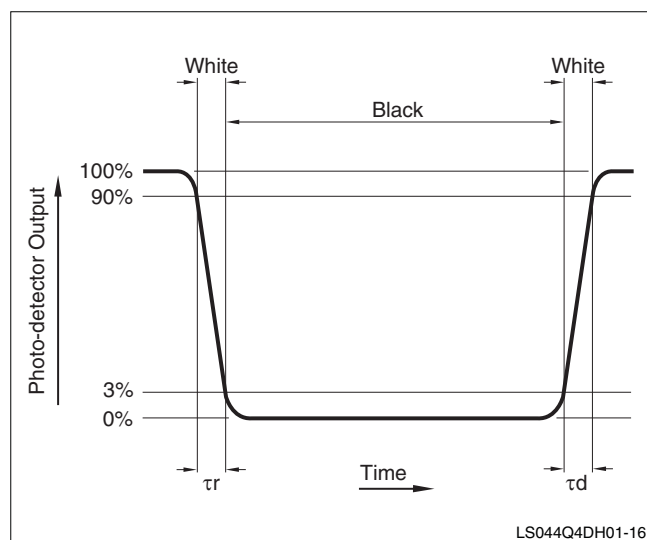
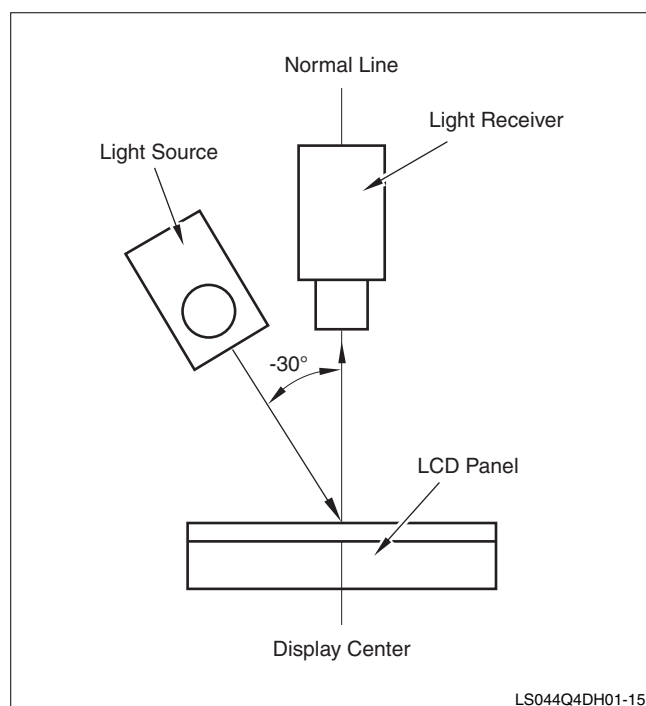

Figure 5. Response Time
Figure 4. Setup for Response Time
3. Response Time is measured by the change interval in an optical receiver when the test panel's signal is transitioned from white to black to white. See Figure 4 for the measurement setup and Figure 5 for the output waveshape. Measurements are conducted in a dark room or equivalent space.